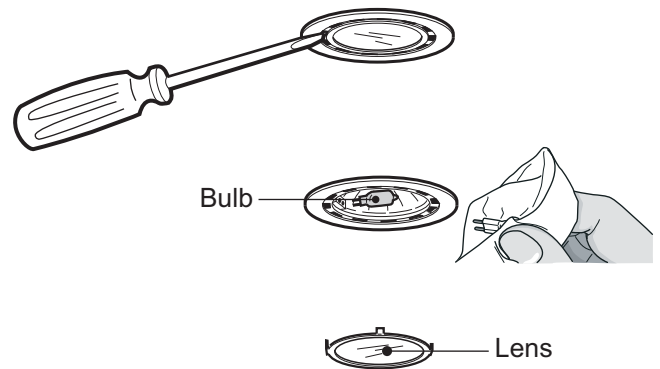

Figure 5: Halogen Light Replacement
1. Using a flat edge from a screwdriver or equivalent tool, pry loose the lens cover, as shown in *Figure 5*.